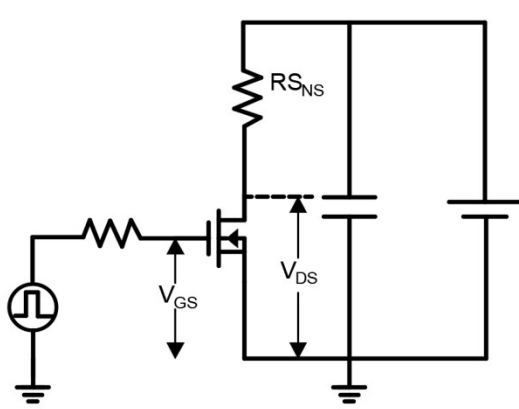

Figure 17. Dynamic  $R_{DS(on)}$  Test Circuit
- c. Dynamic on-resistance; see Figure 17 and 18 for test circuit and configurations